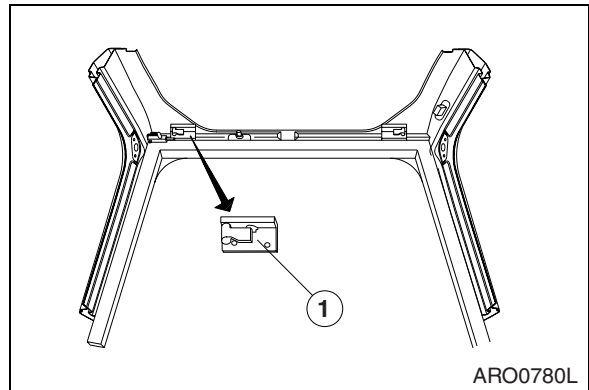

Figure 92
6. Push release levers (1, Figure 92) on both sides of front window. This will allow front window to move.